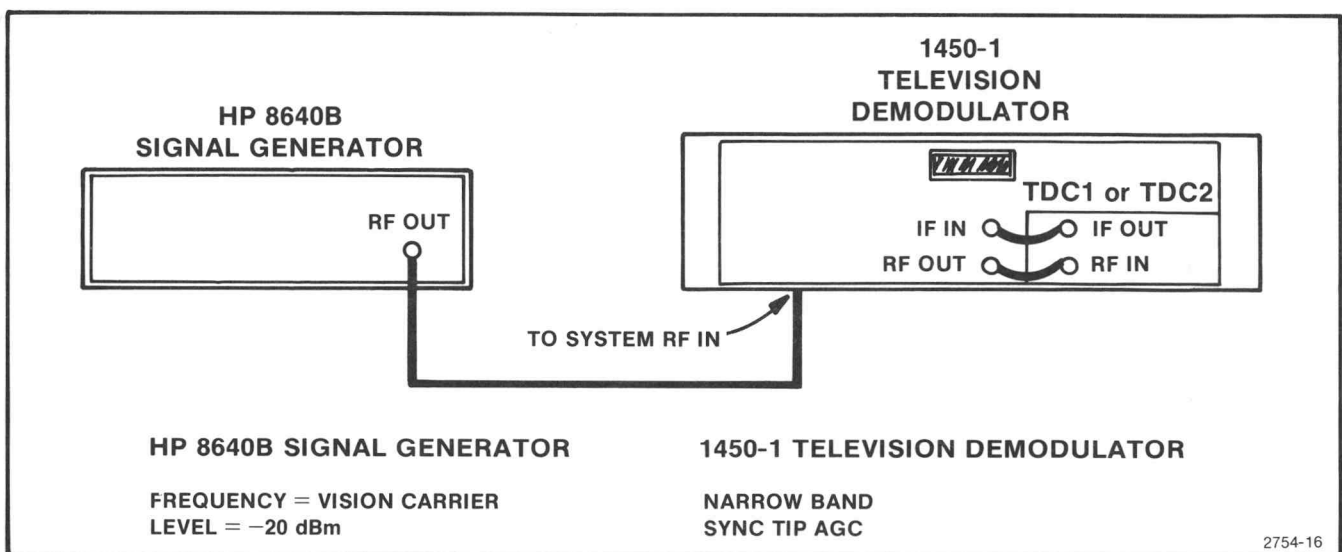

Fig. 4-5. Test Setup for Measuring Input Frequency Range.
- a. Connect a generator, such as an HP 8640B, rf output to the 1450-1 RF In as shown in Fig. 4-5.